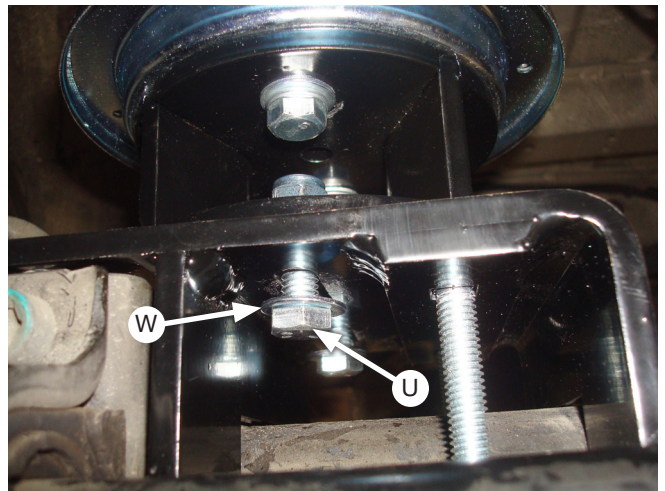

Fig. 23
2. Attach the lower lift spacer previously attached to the lower bracket with the 3/8" Hex cap screws (U), flat washers (W), and nylon lock nuts (V) (Figs. 23 & 24). Leave loose at this time.